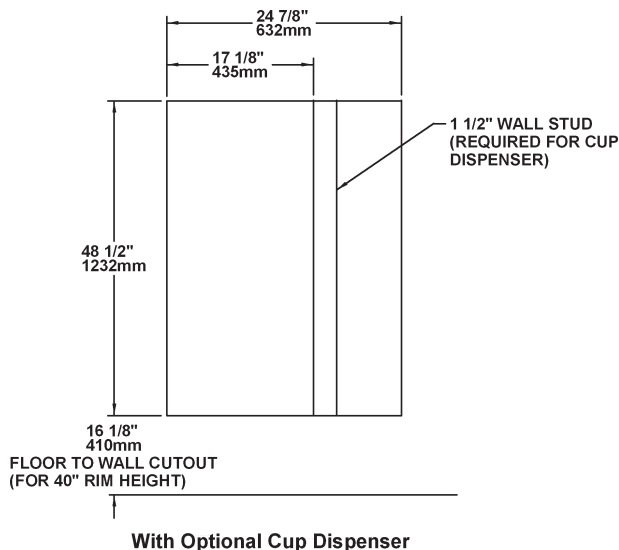
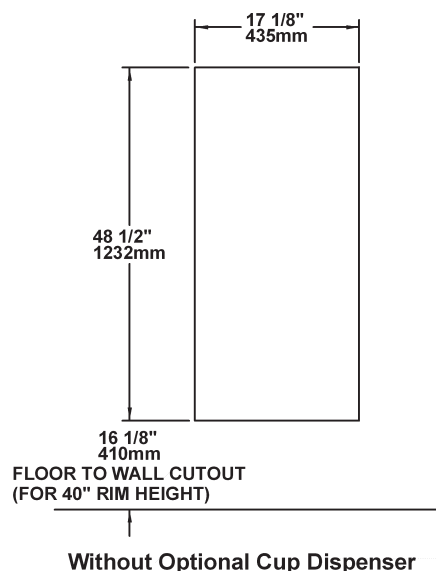

FIG. 3
FIG. 4
1. **Cut** a wall opening 24 7/8 W x 48 1/2 H (with cup dispenser), 17 1/8 W x 48 1/2 H (without cup dispenser). The bottom edge of the opening should be approx. 16 1/8" above the floor (See Fig. 3 with cup dispenser). See Fig. 4 without cup dispenser. Check local codes for height requirement.
2. **After** opening is completed, reinforce opening on all sides so that it may adequately support water cooler which weighs up to 150 lbs. and also provides a means of securing Wall Frame in place. (Install a wall stud indicated on Fig. 3 (with cup dispenser). NOTE: Building construction must allow for adequate airflow on both sides and top of chiller unit. 4" minimum required).